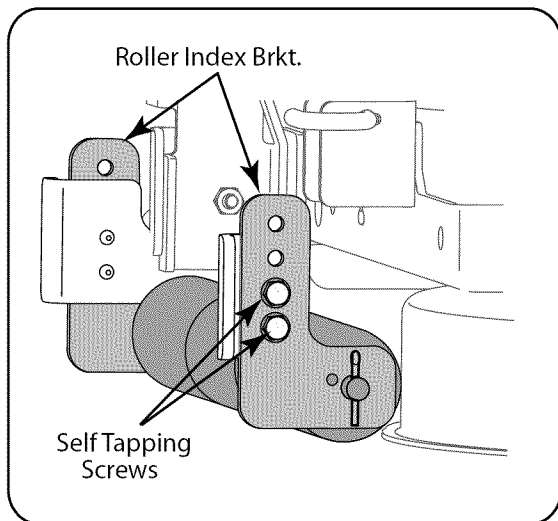

Figure 13
- Position the roller assembly so that the rollers are approximately 1/4" to 1/2" above the flat surface below. Align the nearest two index bracket holes with holes in the deck mounting brackets. See Figure 13.
- Secure the roller assembly with the four self tapping screws. See Figure 13.